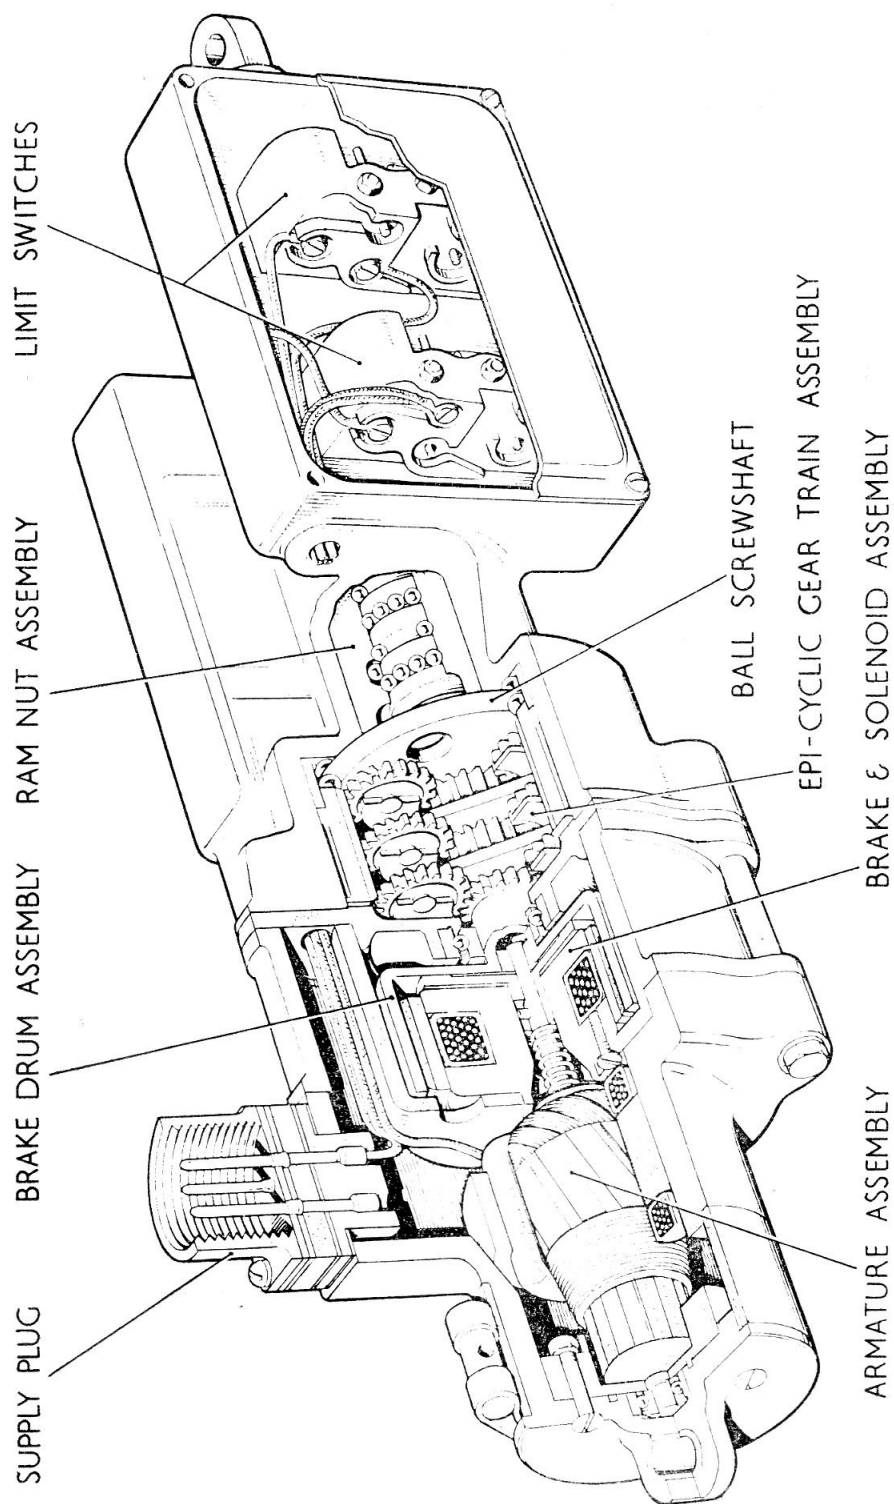

Fig. 2. Sectional view of actuator
1. The A0807 actuator is similar to that described and illustrated in the main chapter, but differs from others in the series in that the ram stroke is 2.775 in., and the position of the supply plug is as illustrated in fig. 2. Other details are as given under Leading Particulars in this Appendix.